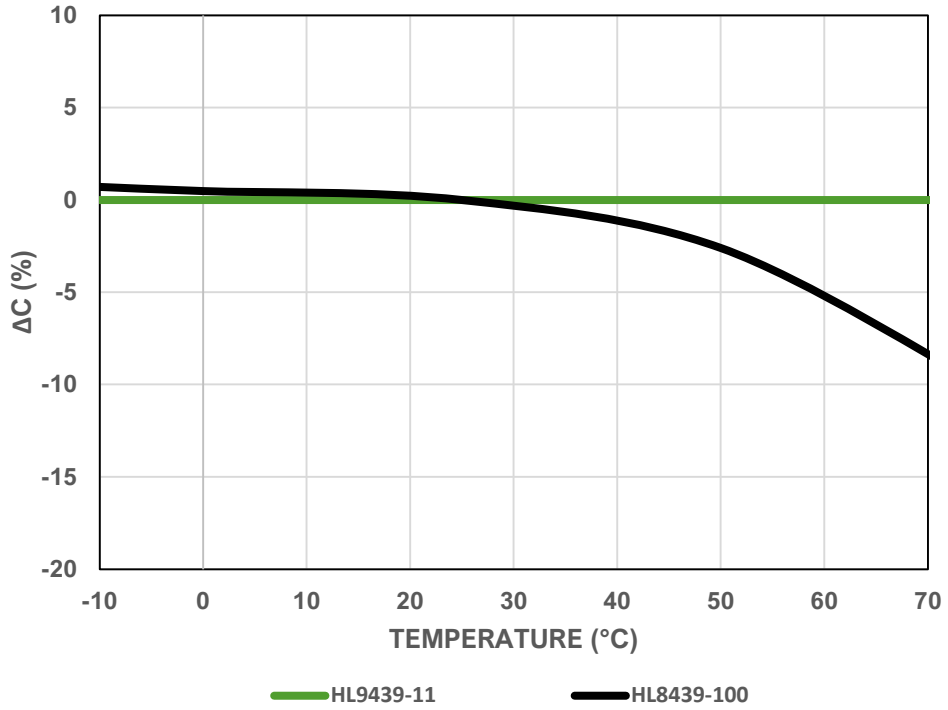
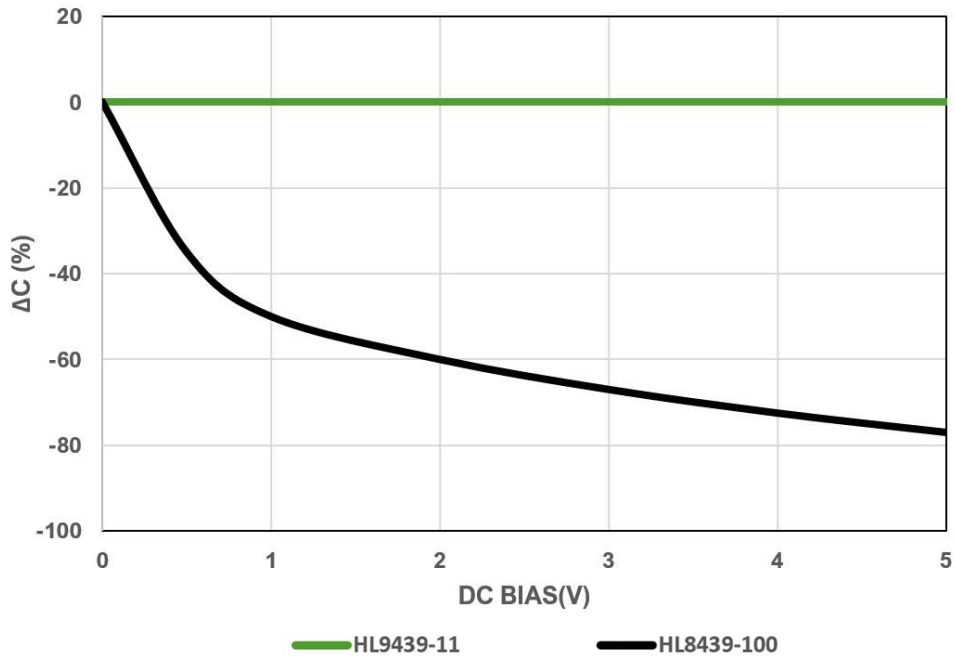

Figure 4: HL8439-100 Capacitance vs. Temperature (25 °C normalization)
Figure 5: HL8439-100 Capacitance vs. Bias Voltage
1 - LFC > -3dB; 2 - HFC > -2dB typ.; 3 - See Figure 4; 4 - See Figure 5
*Figure 4* and *Figure 5* show examples of the thermal and bias voltage dependencies. Depending on the operating temperature and the bias voltage applied to the HL8439-100, the low frequency will adjust accordingly. Please reach out to [info@hyperlabs.com](mailto:info@hyperlabs.com) with any questions you may have about the use of our 110 GHz DC Blocks.